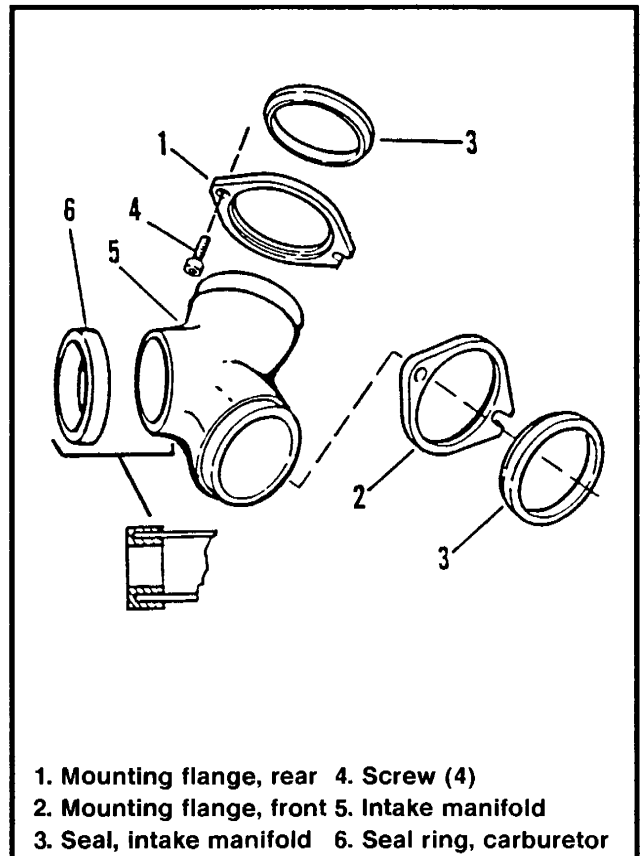

Figure 4-25. Manifold Assembly
INSTALLATION (Figure 4-25)
1. See Figure 4-25. Place flanges (1) and (2) onto aluminum manifold (5).
2. Place intake manifold seals (3) onto each spigot of manifold with chamfered edge against flanges (1) and (2).
3. Place channel of seal ring (6) over inlet end of manifold.
4. Position manifold (5) against intake ports of cylinder head with slotted hole in flanges (1) and (2) at lower holes in cylinder heads. Insert Allen screws (4) through manifold flanges (1) and (2) and loosely thread into tapped holes in cylinder head.
In step 7 the air cleaner backplate is attached to the carburetor and cylinder heads to align the manifold. Make certain screws (4), Figure 4-25, are loose before performing step 7.
8. See Figure 4-25. Tighten the socket head bolts (4) to 6–10 ft-lbs torque.